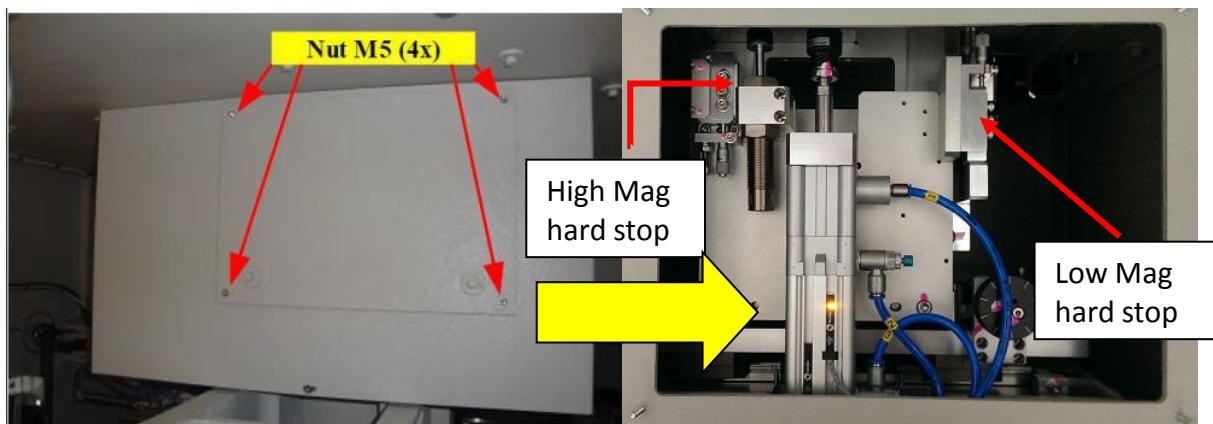

Figure 7
10. Remove the U-Shield Front Cover with loosen 4 x M5 nuts as Figure 7. Left is High Mag hard stop and Right is Low Mag hard stop.